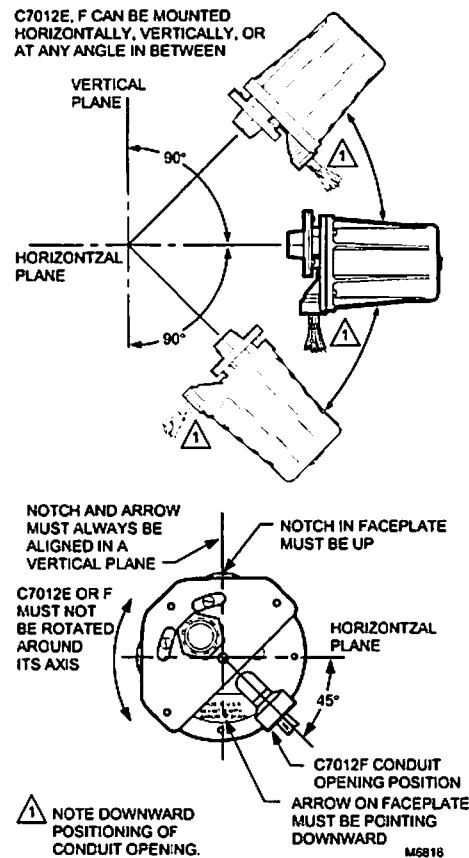

Fig. 6. C7012E,F mounting positions.
The C7012E,F Self-Checking Flame Detectors incorporate an oscillating shutter mechanism and, therefore, require special consideration for mounting positions other than vertically sighting downward or upward. The C7012E has notch and arrow indicators (see Fig. 6) on the faceplate to facilitate mounting. The notch and arrow must be vertically aligned with the notch in the up position and the arrow pointing downward (see Fig. 6). The C7012F must be mounted with the conduit opening located approximately 45 degrees below the horizontal (see Fig. 6).
*The C7012F housing must be mounted with the conduit opening approximately 45° below horizontal (see Fig. 6).*